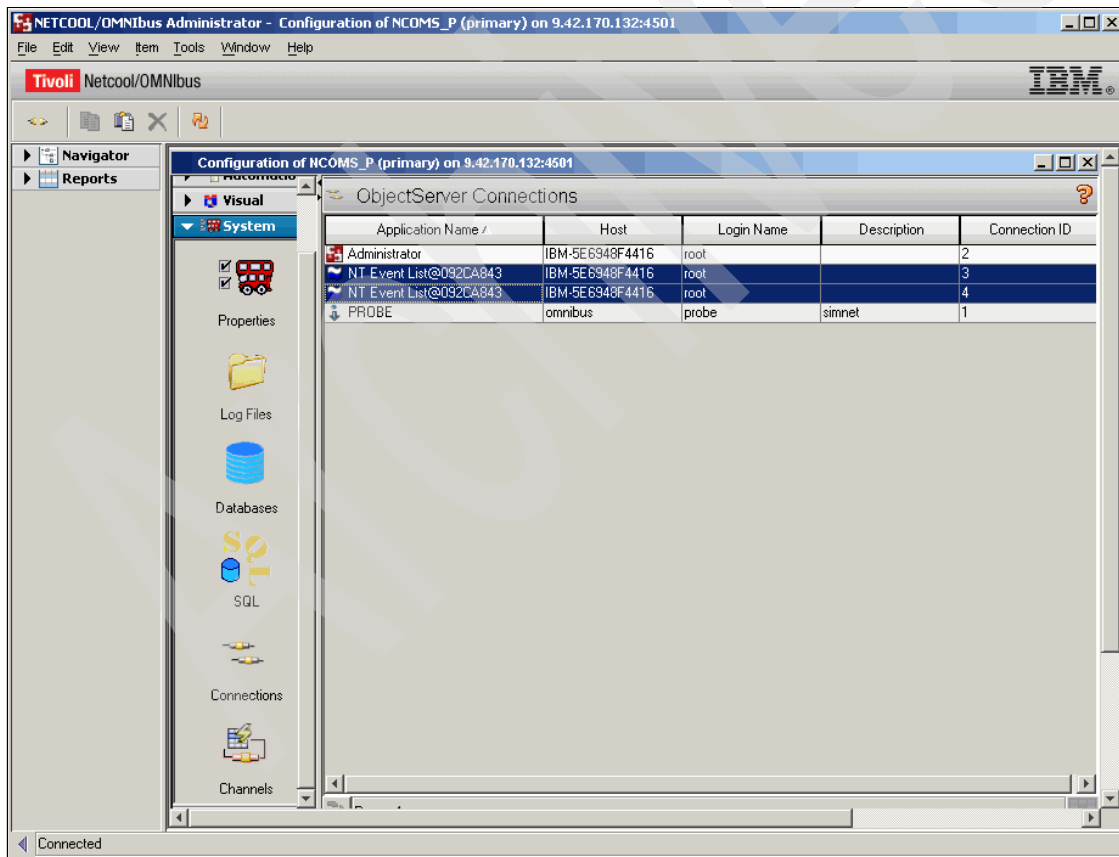

Figure 5-7 Desktop connections
- ▶ Check the number of desktops. You can easily check the number of desktop connections by using the administrator console and going to the **System** → **Connections** tab, as shown in Figure 5-7.